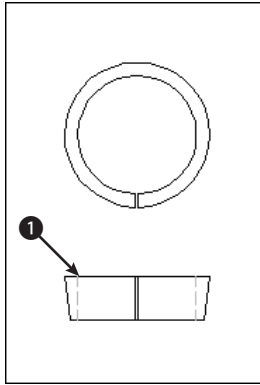

Figure 9-9: The valve piece in two views
2. Save the file as *ab09-06.dwg* in your AutoCAD Bible folder. This drawing, shown in Figure 9-9, shows part of a valve that is manufactured in several sizes. In this exercise, you scale both views to represent a different-size valve piece. Ensure OSNAP is on. Set running object snaps for quadrant and endpoint.
Specify base point: *Use the Endpoint object snap at point 1 in Figure 9-9.*